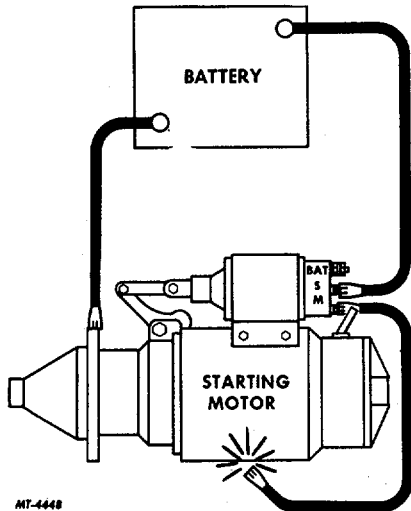

Fig. 12 Pinion Drive Clearance Check Hookup
2. Connect a battery, of the same voltage as the solenoid, one lead to solenoid switch terminal and the other to the starter or solenoid frame, Fig. 12.